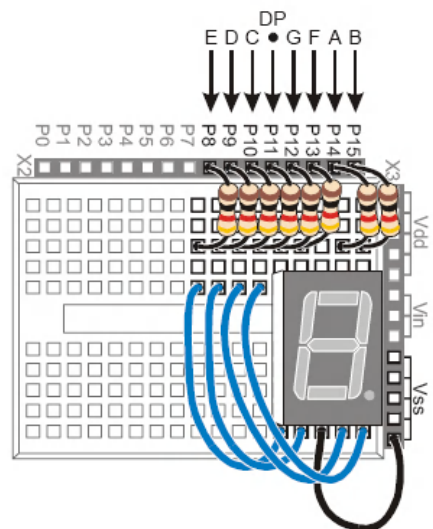

Fig 4.11: Basic Stamp controlled 7-Segment display circuit
- Build the circuit shown in figures 4.11 and 4.12